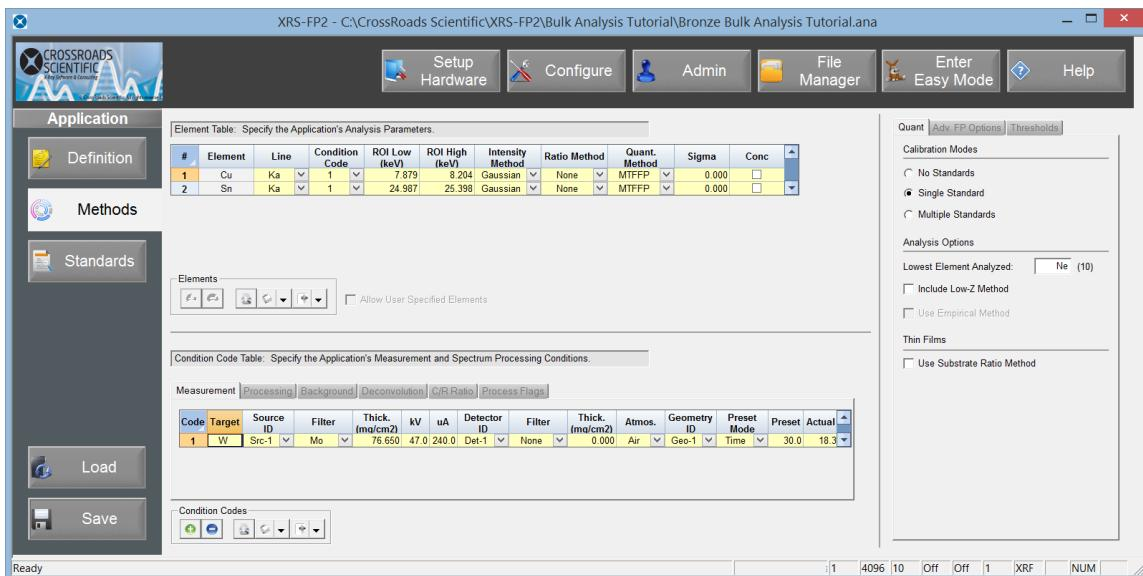

Figure 13. XRS-FP2 Application Workflow – Single Standard Calibration Mode. The quant method is set to single standard.
6. Set the application quant method (calibration mode), in the R-hand panel under the “Quant” tab, to **“Single Standard”** (Fig. 13 below).